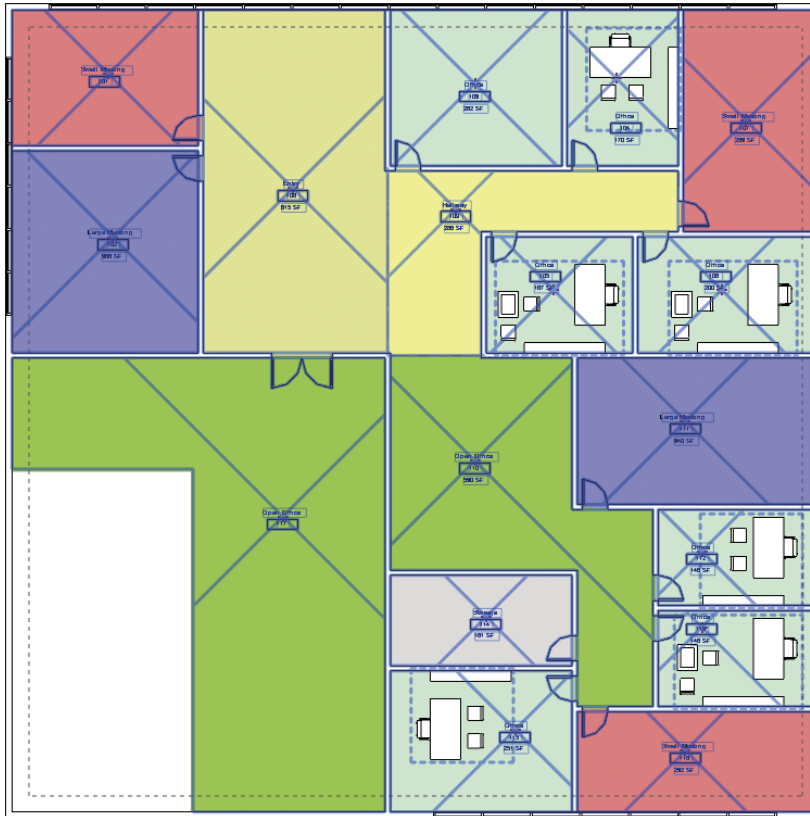

FIGURE 10.10 Selecting and assigning the Interior workset
- Next, you will assign some interior elements to the Interior workset. Draw a selection window from the lower right to the upper left inside the exterior walls. Windowing from this direction will include every element you cross or include within the window you draw. (If you windowed from left to right, it would select *only* the elements fully contained within the selection box (Figure 10.10).